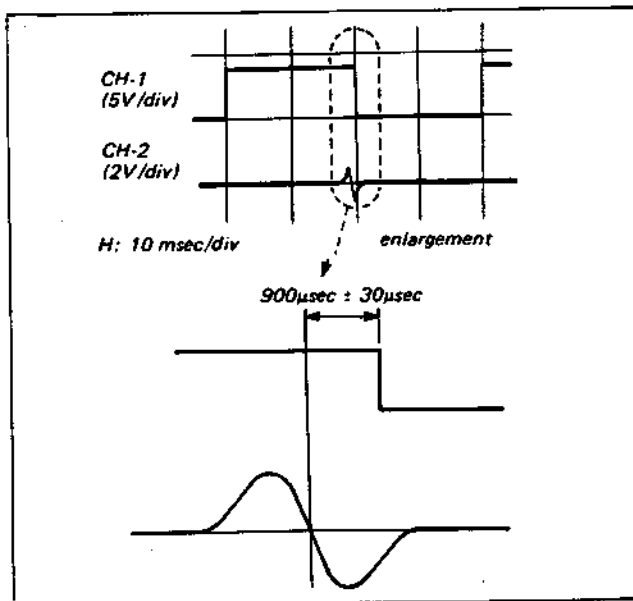

Fig. 5-8. RF switching position adjustment (2)
- iii) Adjust to $900 \mu\text{sec} \pm 30 \mu\text{sec}$ with RV305 (See Fig. 5-8.)